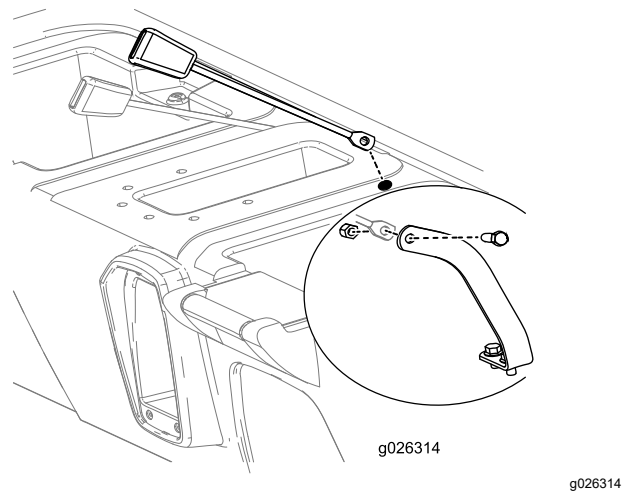

Figure 13
8. Insert the mounting side of the receiver end of each seat-belt lock assembly into one of the newly drilled holes in the seat base (Figure 13).
9. Mount the receiver end of each seat-belt assembly to each seat-belt anchor with a bolt (7/16 inch) and nut (7/16 inch) as shown in Figure 13.